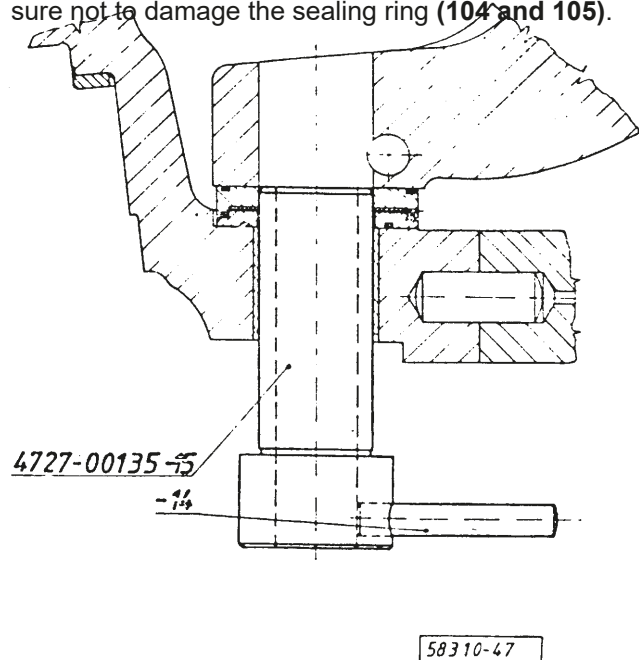

Fig. 2.: ASSEMBLING THE AXIAL BEARING OF THE LOWER KNUCKLE PIN
bearing, then after removing the steering knuckle remove these parts also from the knuckle carrier (**77**). **See Fig. 2.**
By means of the lower knuckle pin position the thrust bearing, the o-rings (64 and 68), the bearing case, lower (65), the thrust disk (66), the bearing case, upper (67) to place then push in the knuckle pin to bottom out (Fig. 2).